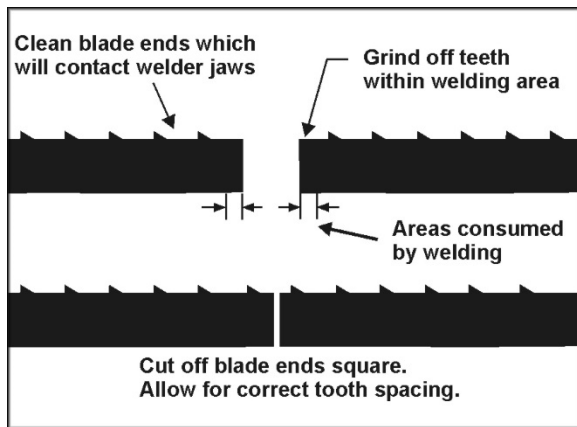

Figure 10
3. Position blade so that cut is made at a place that allows for uniform spacing of teeth. See Figure 10.
In fine pitched blades, one or more of the teeth on each side of the cut may need to be removed by grinding so that the weld area of the blade is uniform and the teeth will be uniformly spaced. See Figure 10, and refer to section 12.5 *Blade grinding*.